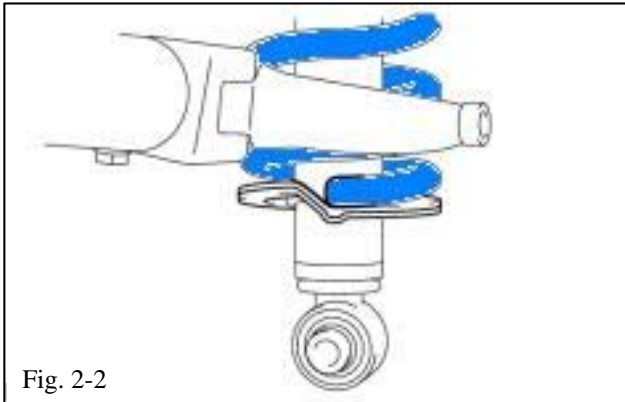

Fig. 2-2
- (c) Fit the rear coil spring end into the recessed part of the rear lower shock absorber seat (Fig. 2-2).
- (d) Turn the spring seat so that the lower end of the coil lines up with the shock absorber mount eye as shown (Fig. 2-2).